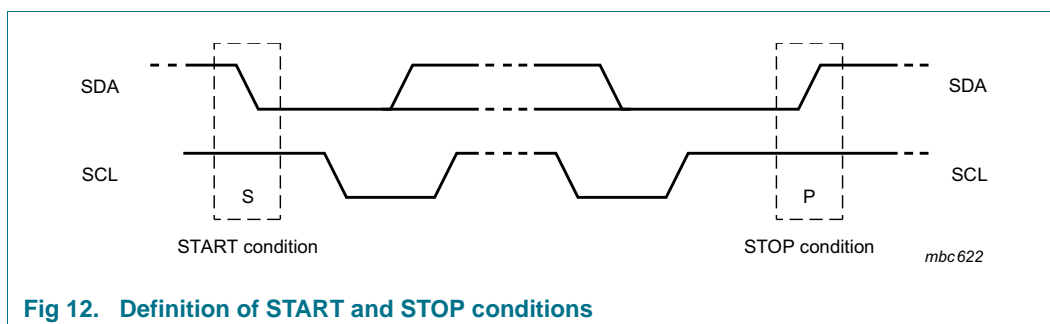

Fig 12. Definition of START and STOP conditions
Both data and clock lines remain HIGH when the bus is not busy. A HIGH-to-LOW transition of the data line, while the clock is HIGH, is defined as the START condition (S). A LOW-to-HIGH transition of the data line, while the clock is HIGH, is defined as the STOP condition (P), see Figure 12.